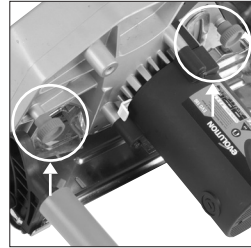

Fig. 1
- Remove the chip collector from the machine by undoing the (2) large thumb screws. **(Fig. 1)**